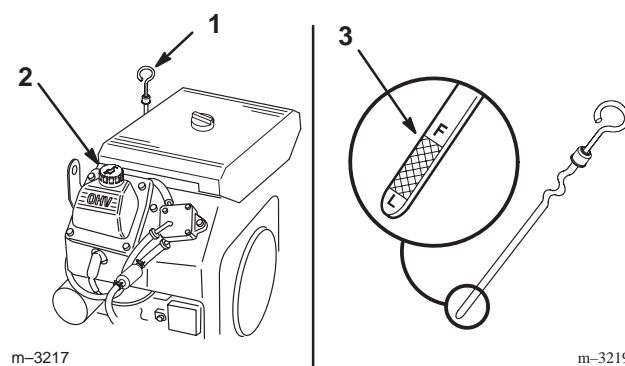

Figure 26
2. Clean around the oil dipstick (Fig. 26) so dirt cannot fall into the filler hole and damage the engine.
3. Pull the oil dipstick and wipe the metal end clean (Fig. 26).
4. Slide the oil dipstick fully into the filler tube. Pull the dipstick out and look at the metal end (Fig. 26). If oil level is low, slowly pour only enough oil into the filler tube to raise the level to the “FULL” mark.
5. Slowly pour approximately 80% of the specified amount of oil specified, page 41, into the filler cap (Fig. 26). Now check the oil level; refer to Checking Oil Level, page 41. Slowly add additional oil to bring to "FULL" mark on dipstick.